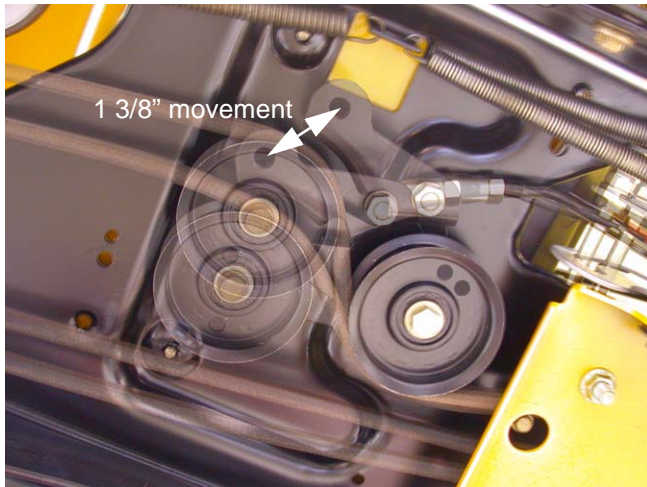

Figure 18.11
- 18.11. The empty hole in the double idler bracket should swing through an arc of $1\frac{3}{8}$ " when 10 lbs. of force is applied to the drive pedal. See Figure 18.11.